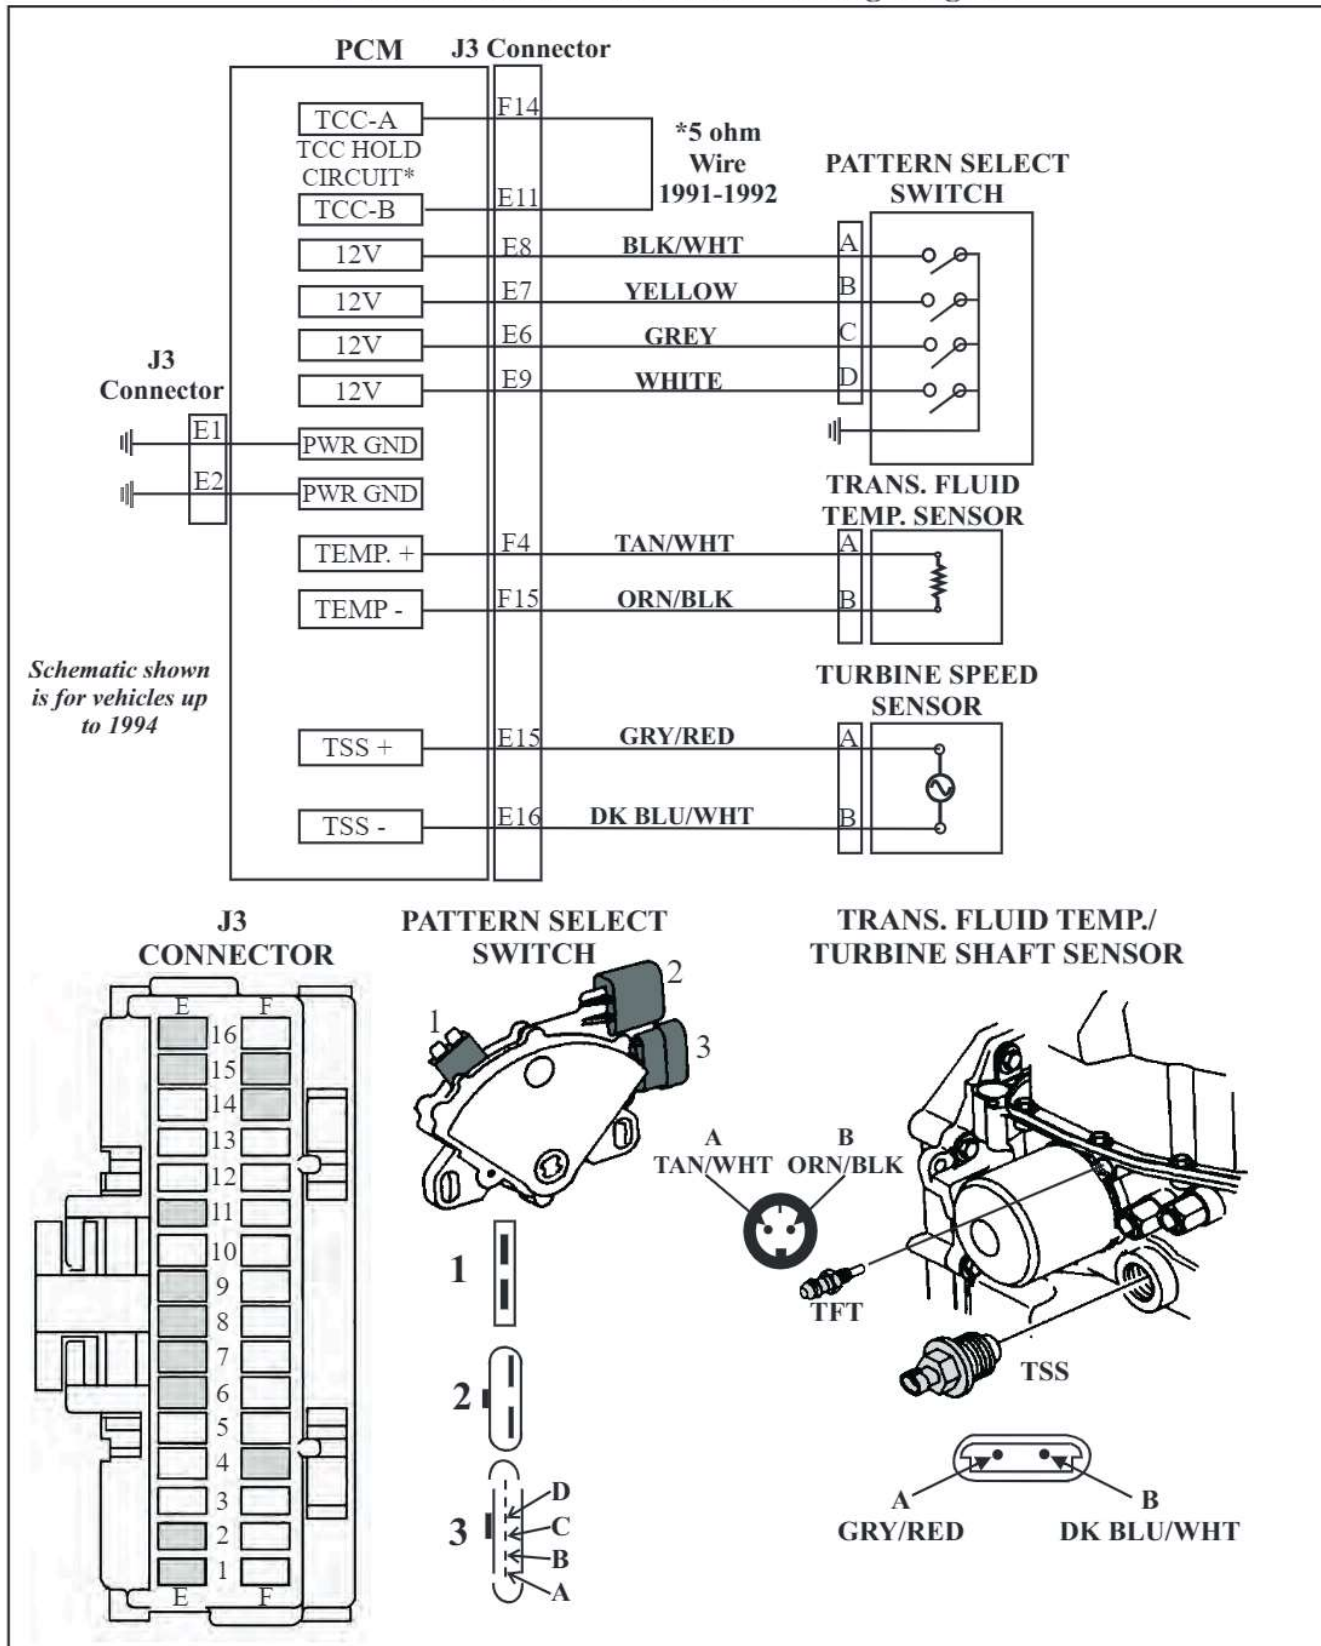

Figure 27
The TCC Hold Circuit shown in Figure 27 (*5 ohm wire circuit) is a 1991 and 1992 model year feature only. The amount of electrical current required to **energize** an actuator is greater than the amount required to **hold** an actuator in position. The Hold Mode is a feature built into the PCM that reduces current draw of the TCC actuator when TCC is being held on. After TCC is applied a driver built into the PCM is opened and an actuator ground path is provided inside the PCM through the 5 ohm resistance wire.
To adjust the Pattern Select Switch, put the selector lever in the D4 position. Do not start the vehicle. Place an ohm meter onto the Pattern Select Switch as shown in Figure 29 (The terminal contacts to be used is in connector 1 shown in Figure 27 on page 22). Rotate the switch until the ohm meter reads continuity. Once adjusted, secure the Pattern Select Switch.
The Turbine Speed Sensor (TSS) is a permanent magnet (PM) generator mounted near the pressure filter on the transaxle case (See Figure 27). The PM generator produces a pulsing voltage (AC) whenever turbine shaft speed is above 250 rpm. These pulses occur eight times per each turbine shaft revolution and is converted to an RPM signal inside the PCM. These pulses can be viewed with a DVOM set to Hz. If a DVOM is set on AC volts, voltage would increase with speed. If this sensor is checked with an ohm setting, the resistance value should be between 800 to 1600 ohms. The Turbine RPM signal can also be checked and viewed through a hand held scanner.